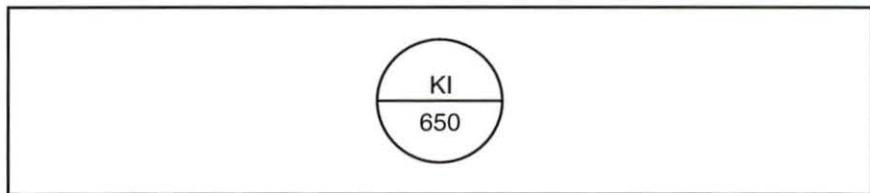

Figure 57. Instrument Tag
15. Determine the measured variable indicated in the instrument tag in figure 57.